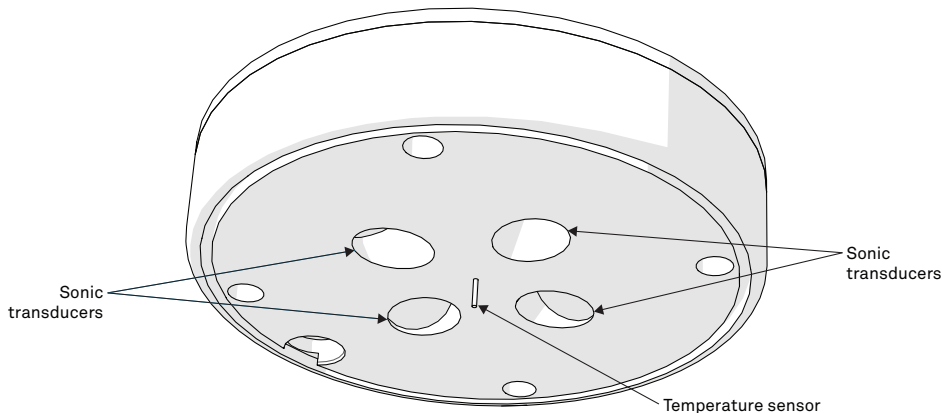

Figure 6 Temperature needle and sonic transducers
1. Make sure nothing is obscuring the temperature sensor or the sonic transducers shown in Figure 6 (cobwebs, leaves, wasp nests, etc.).
- **DO NOT** touch the temperature sensor needle (Figure 6).
- Avoid more than light pressure on the sonic transducers (Figure 6).
**NOTE:** Do not allow water to enter the sonic transducers (Figure 6). Water may corrode the metal parts inside and ruin the transducers.